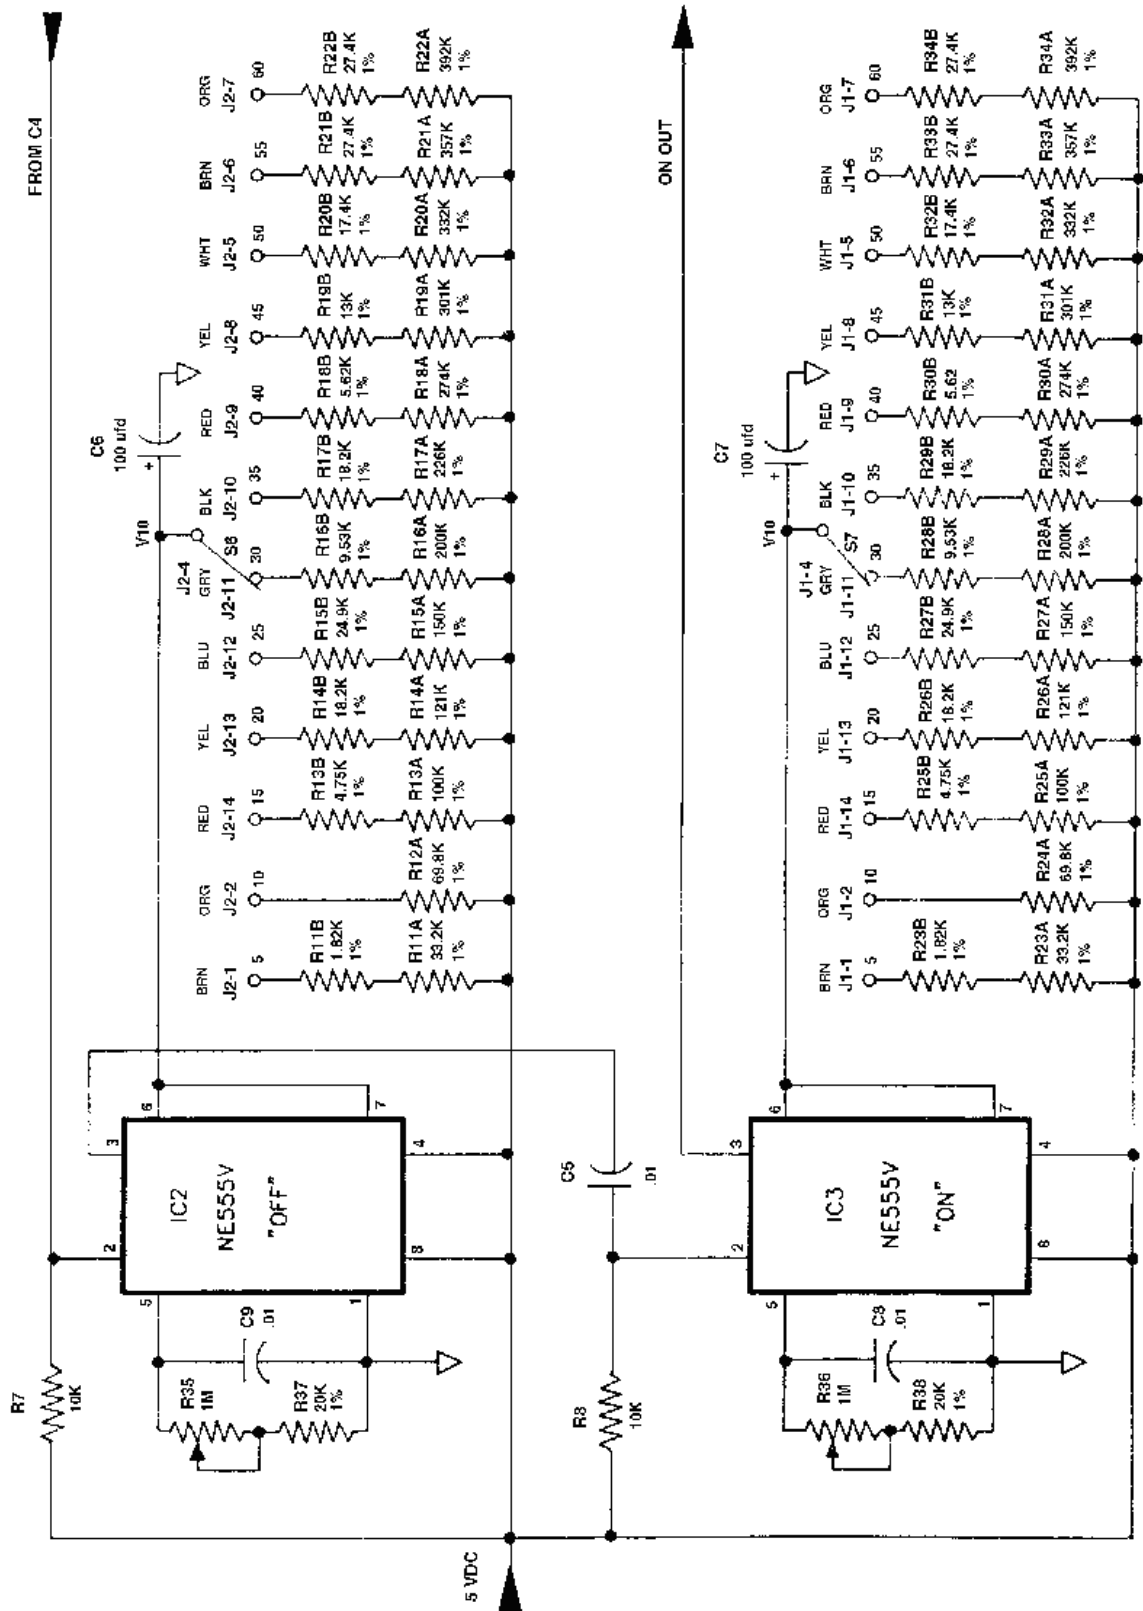
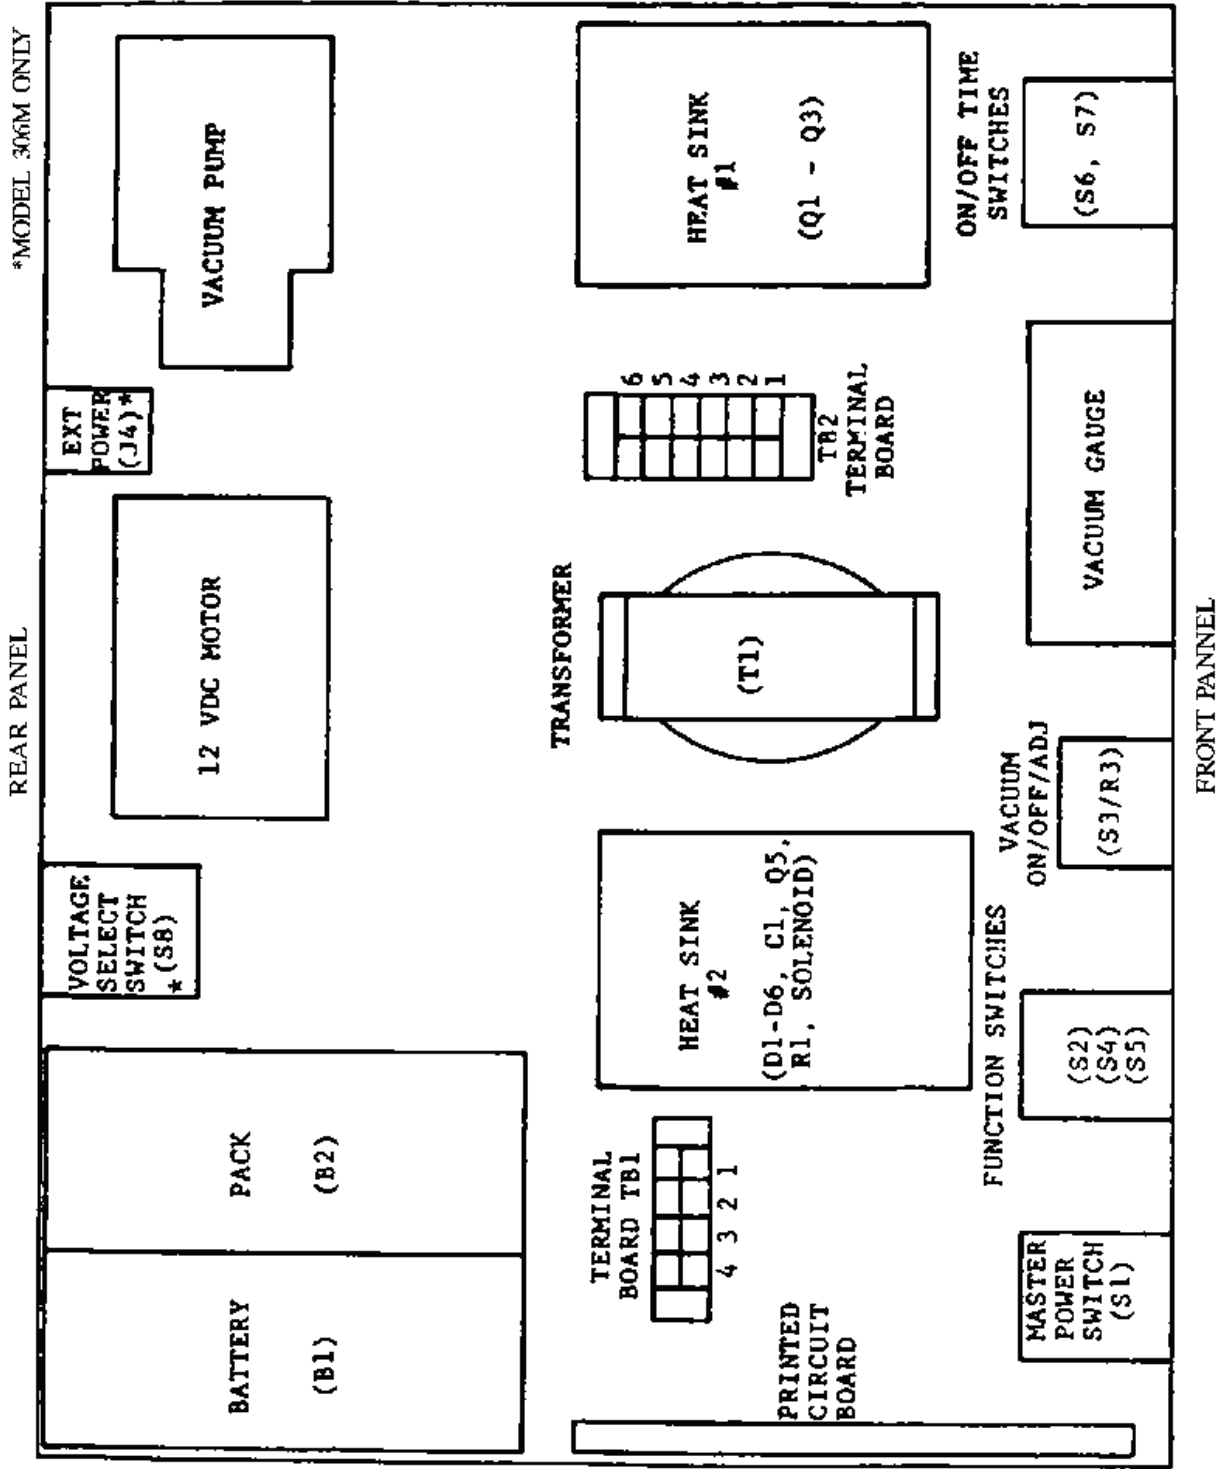

Figure 2-3. On/off clock schematic.
Figure 2-4. Printed circuit board layout.
(8) On-time monostable. Refer to figure 2-3. The on-time monostable controls the relay system and determines how long the off-time monostable remains low. Components IC3, C5, C7, C8, R8, R23 through 34, R36, and R38 comprise this circuit. Essentially, this monostable and its corresponding components act in the same manner as the off-time monostable. The on-time output triggers the off-time monostable via 1C1 pin 3 and the relay system, both directly and through 1C1 pin 4. All components are mounted on the printed circuit board as seen in figure 2-4.
(b) To reassemble, carefully reposition the front panel in place and secure it tightly with the seven screws. Connect the two pieces of vacuum tubing to the rear of the vacuum gauge and connect P1 and P2 to their respective PCB jacks (observe pin polarity). See the schematics in figures 2-1 and 2-2 and the printed circuit board assembly in figure 2-4.